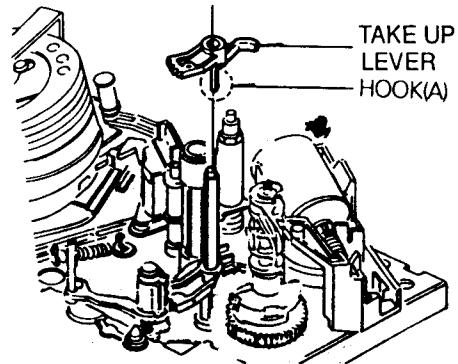

Fig. B-7. Take-Up Lever
## 7. Take Up Lever(Fig. B-7)
- 5) Remove the Take-Up Lever by pushing the hook(A) outward(Fig. B-7).